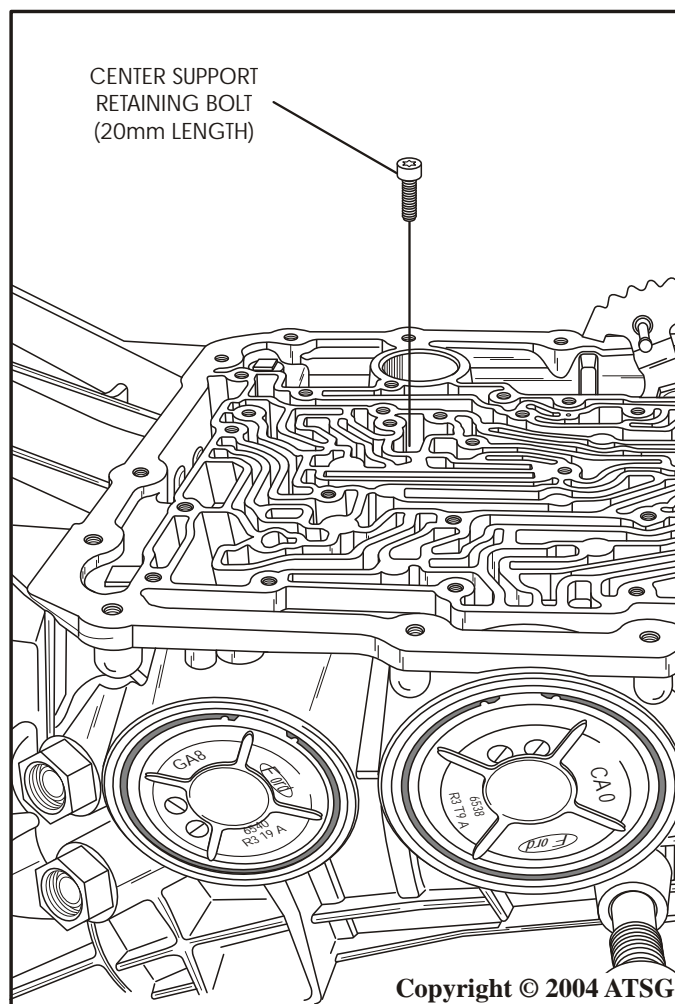

Figure 152
37. Loosely install the center support retaining bolt as shown in Figure 152.